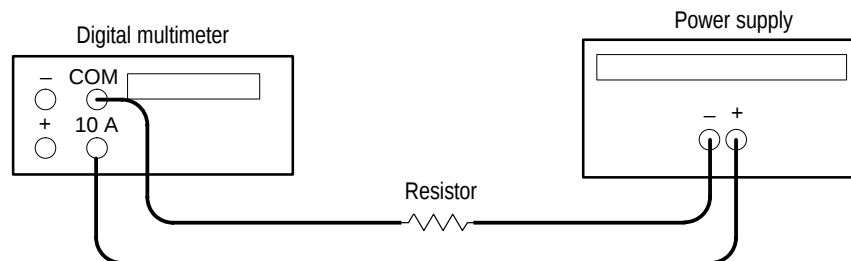

Figure 6: Constant Current Source Test Setup
2. Ensure that the power supply output is disabled. Connect the DMM and 27 Ω 100 W resistor to the front panel OUTPUT 1 terminals. See Figure 6 for details.
10. Ensure that the power supply output is disabled. Remove the leads from the front panel OUTPUT 1 terminals and connect them to the front panel OUTPUT 2 terminals. Maintain the equipment configuration and polarities shown in Figure 6.
2. Ensure that the power supply output is disabled. Connect the DMM and 2.2 Ω 50 W resistor to the front panel OUTPUT 3 terminals. See Figure 6 for details.